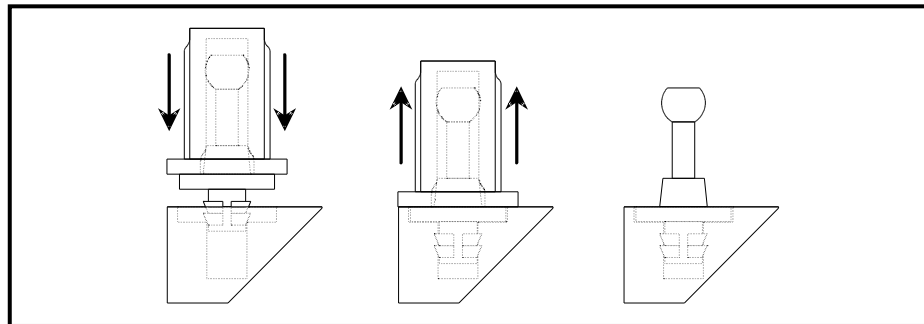

Figure 2.6 - Installing grille pin into Eidolon grille frame. Note that after installation, the grille pin flange is flush with the surface of the grille.
- Place the exposed end of the grille pin in the open mounting hole. Check to insure that the grille cloth is not trapped between the pin and frame. Use a small hammer and gently tap the new grille pin in place. Then, pull the insertion tool off the new pin and verify that the pin flange is flush with the surface of the grille. Please refer to Figure 2.6.